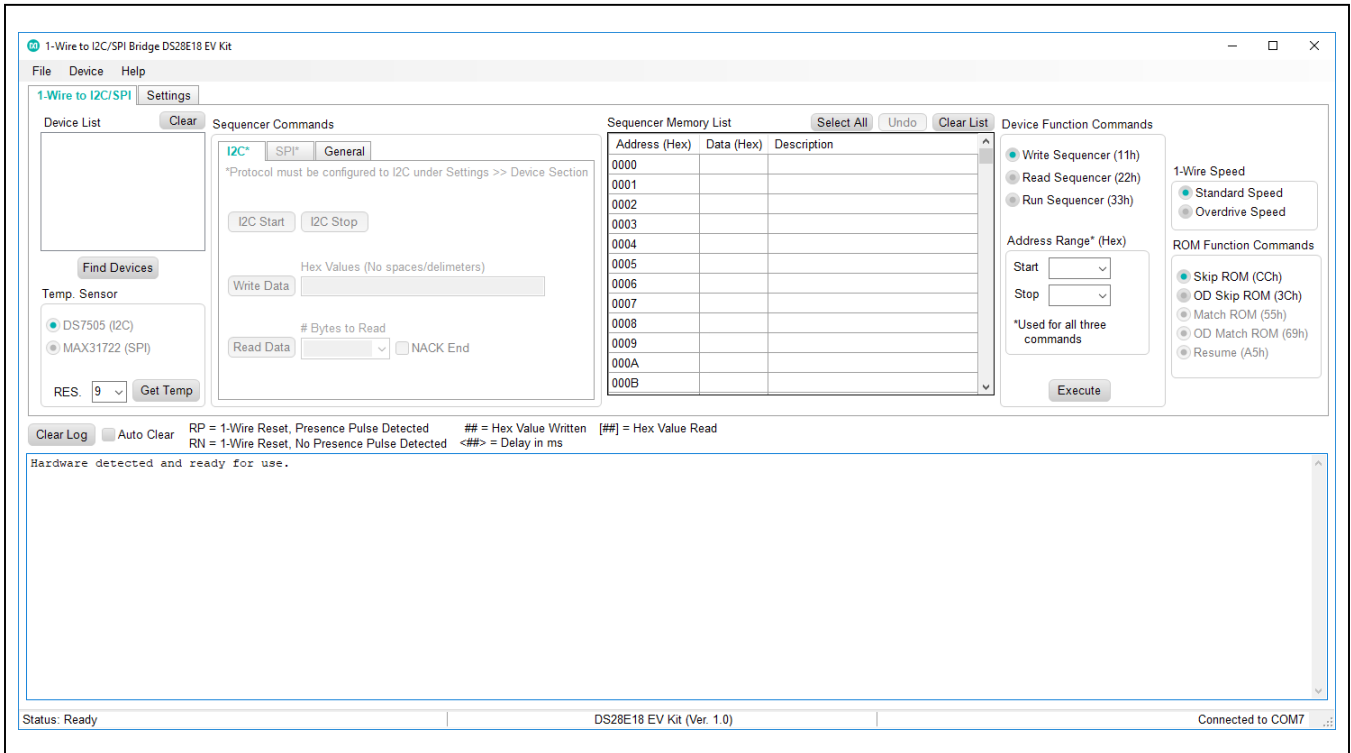
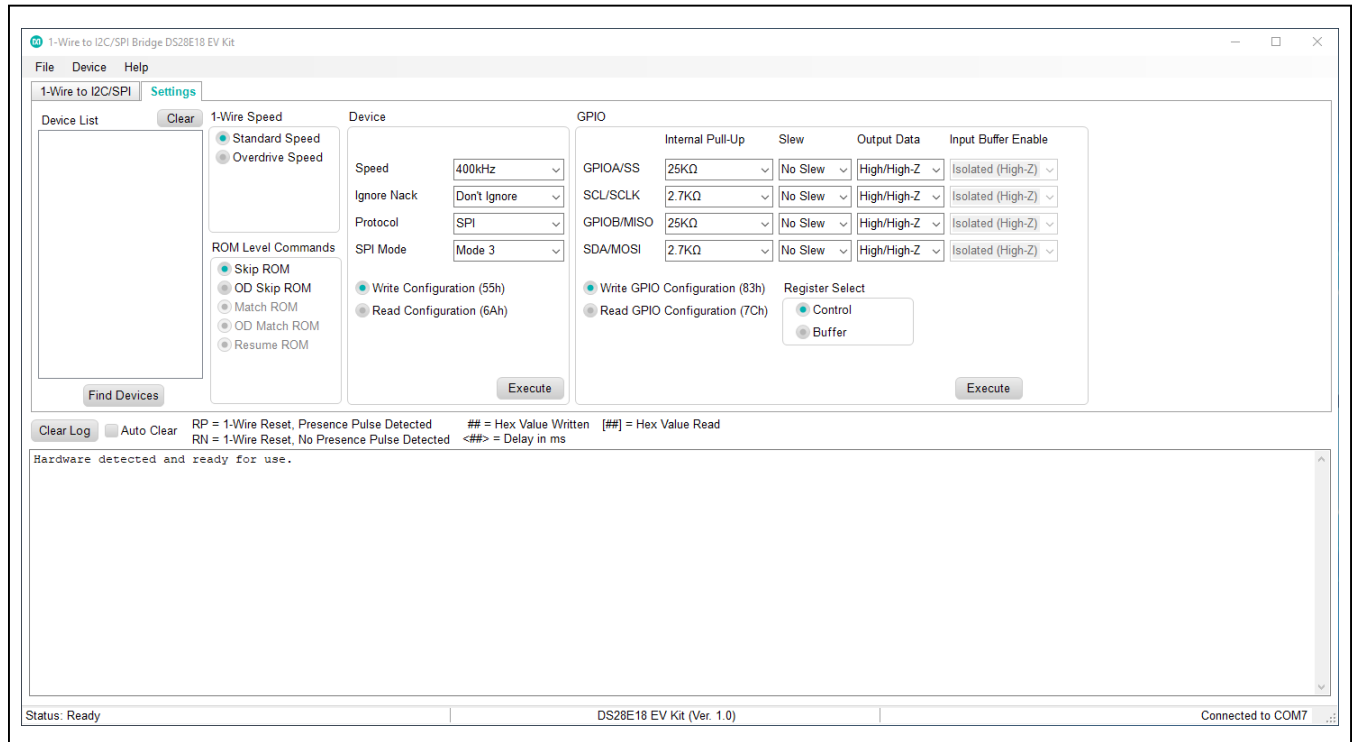

Figure 12. DS28E18 EV Kit Software Initial Screen GUI
Figure 13. DS28E18 EV Kit Software, Settings Tab
- 14) Once properly installed, the initial screen graphical user interface (GUI) should appear (Figure 12).
The DS28E18 evaluation program user interface (Figure 12) has two tabs: **1-Wire to I2C/SPI** and **Settings**. The **1-Wire to I2C/SPI** tab is the main tool to evaluate specific functions of the DS28E18. The **Settings** tab (Figure 13) provides control over the device's general and GPIO configurations.